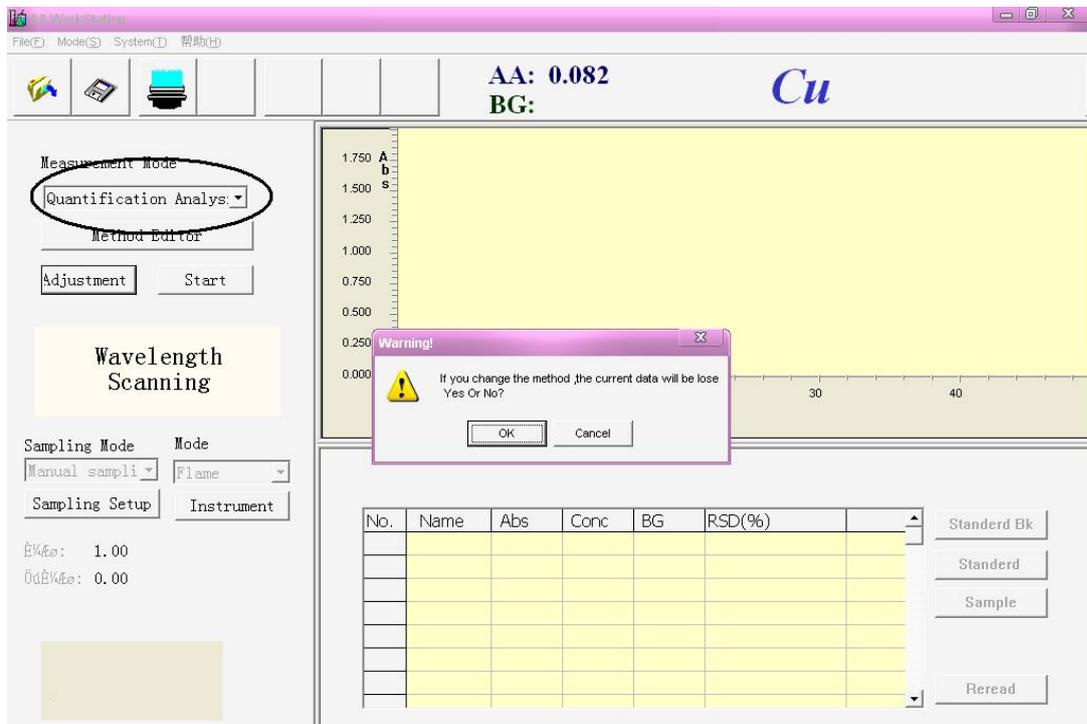

Figure 5-30
4. Figure 5-30, select the "quantification analysis" from the "Measurement Mode"